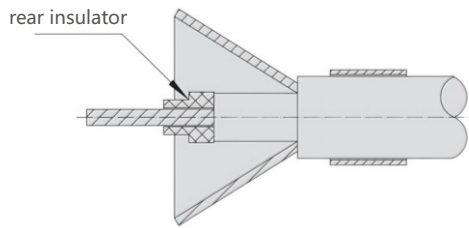

Figure 1.3
- ③ Install the rear insulator on the cable's central conductor, and press the tail of the rear insulator tightly against the cable's insulating medium (as shown in Figure 1.3).